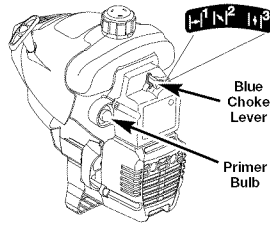

Fig. 6
- Fully press and release the primer bulb 10 times, slowly. Some amount of fuel should be visible in the primer bulb and fuel lines (Fig. 6). If you can't see fuel in the bulb, press and release the bulb as many times as it takes before you can see fuel in it.
- Place the blue choke lever in Position 1 (Fig. 6).
- Place the blue choke lever in Position 2 (Fig. 6).
- Once the engine is warmed up, place the blue choke lever in Position 3 (Fig. 6). The unit is ready for use.
- If...the engine hesitates, return the blue choke lever to Position 2 (Fig. 6) and continue warm-up.